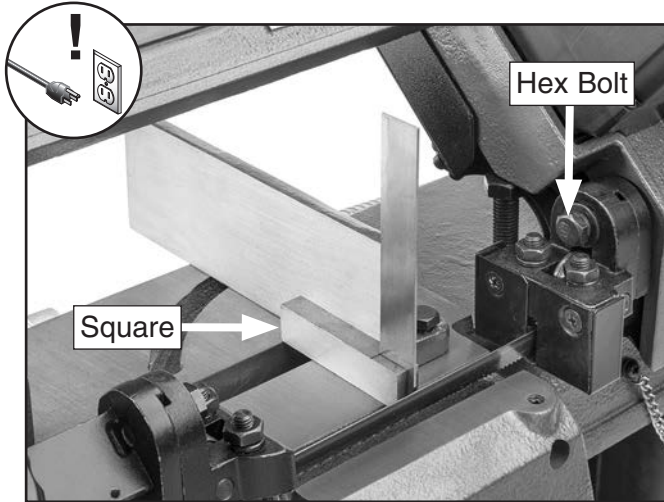

Figure 57. Squaring blade.
4. Place square on table bed and against edge of blade (see **Figure 57**), and check different points along length of table between blade guides.
5. Loosen hex bolt shown in **Figure 57**, and rotate blade guide seat until blade is perpendicular to bed, then tighten hex bolt.